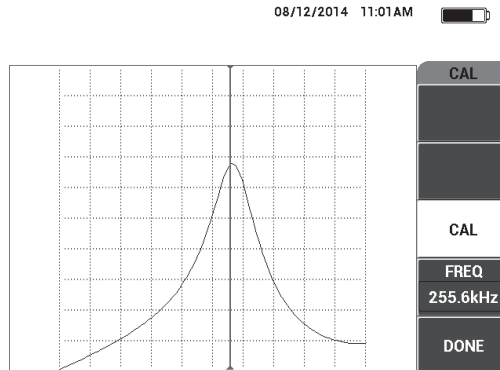

Figure 6-47 The CAL screen
- Press **DONE** (E key) [see Figure 6-47 on page 163].